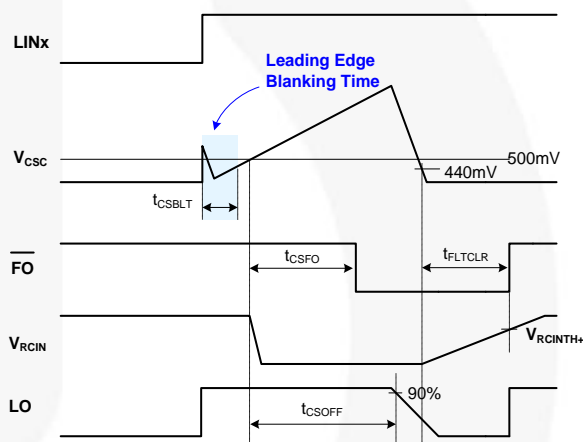

Figure 44. $RCIN$ and Fault-Clear Waveform Definition
Figure 44 shows the waveform definitions of $RCIN$, \overline{FO} , and the low-side driver; which uses a soft turn-off method when an under-voltage condition of the low-side gate driver supply voltage (V_{DD}) or the current-sense pin (CS) recognizes a fault. If a fault condition occurs, the \overline{FO} Pin is internally pulled to COM and all outputs ($HO1, 2, 3$ and $LO1, 2, 3$) of the gate driver are turned off. Low-side outputs decline linearly by the internal sink current source ($I_{SOFT}=40\text{ mA}$) for soft turn-off, as shown in Figure 44.